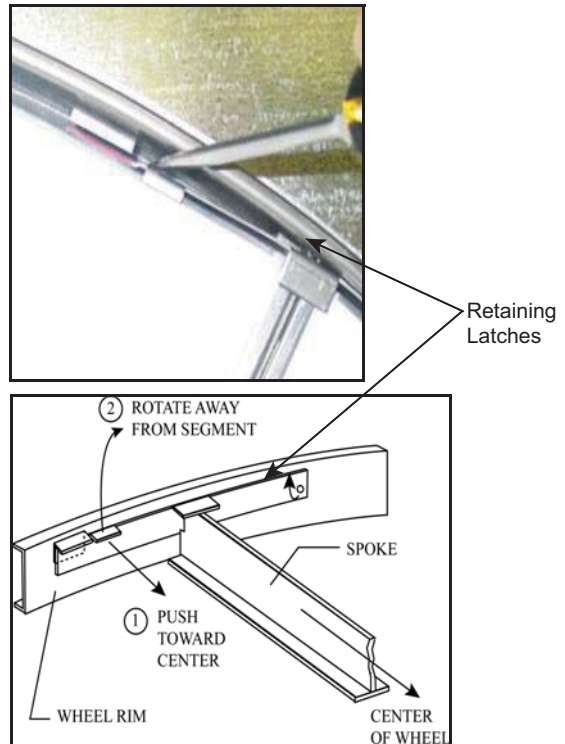

Fig. 34 – Release Retaining Latches
4. Using a flathead screwdriver, unlock and open the two segment retaining latches, at the outer corners of the segment to be removed. See Fig. 34 for example of releasing retaining latches.
2. Begin by positioning one empty segment bay at the top of the wheel and opening the two retaining latches. See Fig. 34 to release retaining latches.
4. Close the retaining latches on outer corners of segment to secure the segment inside the wheel. See Fig. 34 for example of closing the retaining latches.